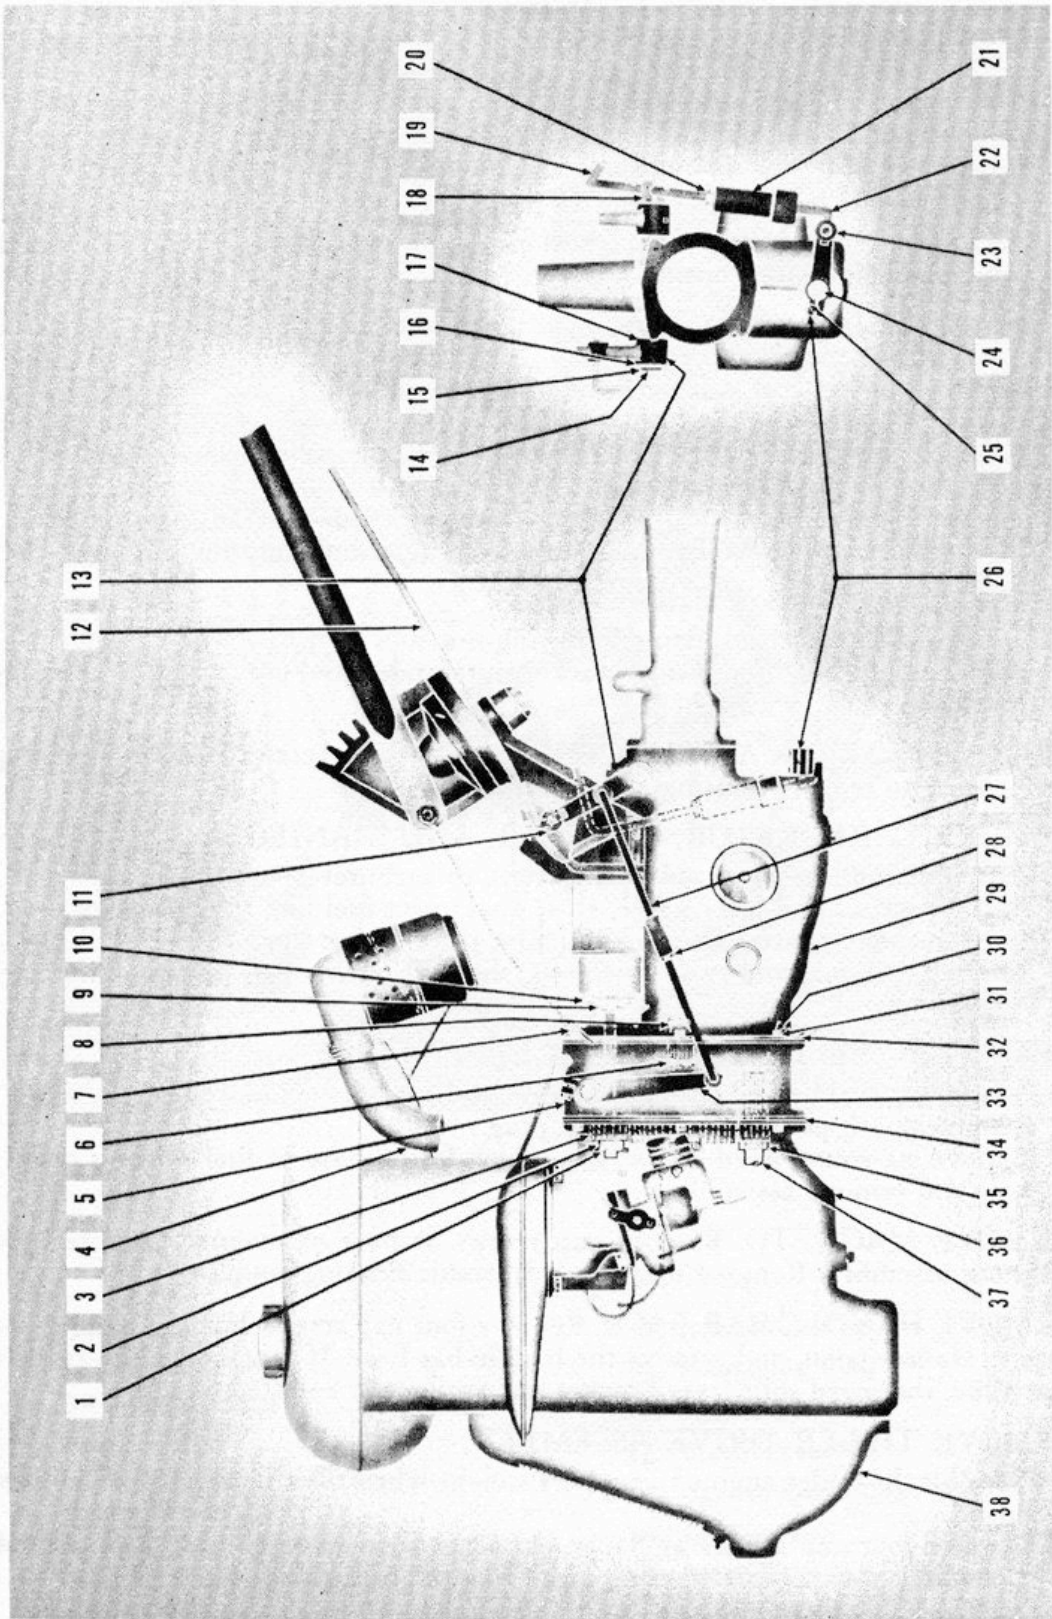

Figure 23. Reverse Gear Installation
- c. Loosen clamp at engine; then pull throttle control housing free. On units equipped with reverse gear, loosen intermediate cable clamp on transmission case flange. (See figure 23.)
11. REMOVE REVERSE GEAR UNIT. (IF EQUIPPED.) (See figure 23.)
1. INSTALL REVERSE GEAR (IF EQUIPPED) TO TRANSMISSION. (See figure 23.)
- c. Set the engine and transmission on blocks, then aligning the two units with two long tapered drive-pins as guides, slide carefully together taking care to mesh gears and guide magneto drive shaft into engine-case bearing. On reverse gear units, take care to enter crankshaft splines into reverse gear main drive pinion. (See figure 23.)
5. **INSTALL HANDLE-BAR BASE.**—With the cog section of handle-bar base to the rear, mount to top of the transmission. The four cap screws and lock washers used, also fasten the transmission cover to case. On reverse gear units, assemble the speed shifter upper link to the bracket and spring assembly, then fasten assembly to transmission case with the two bolts on the right side. (See figure 23.)
15. ADJUST MODEL B1-7RS TRANSMISSION SHIFT LINKAGE. (See figure 23.)